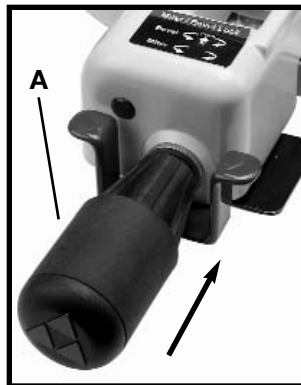

Fig. 18
The cuttinghead of your compound miter saw can be tilted to cut any bevel angle from a 90 degree straight cut off to a 45 degree left bevel angle. Push lock handle (A) Fig. 18 in and turn counter-clockwise. Tilt cuttinghead to the desired angle, and tighten lock handle (A) Fig. 18.